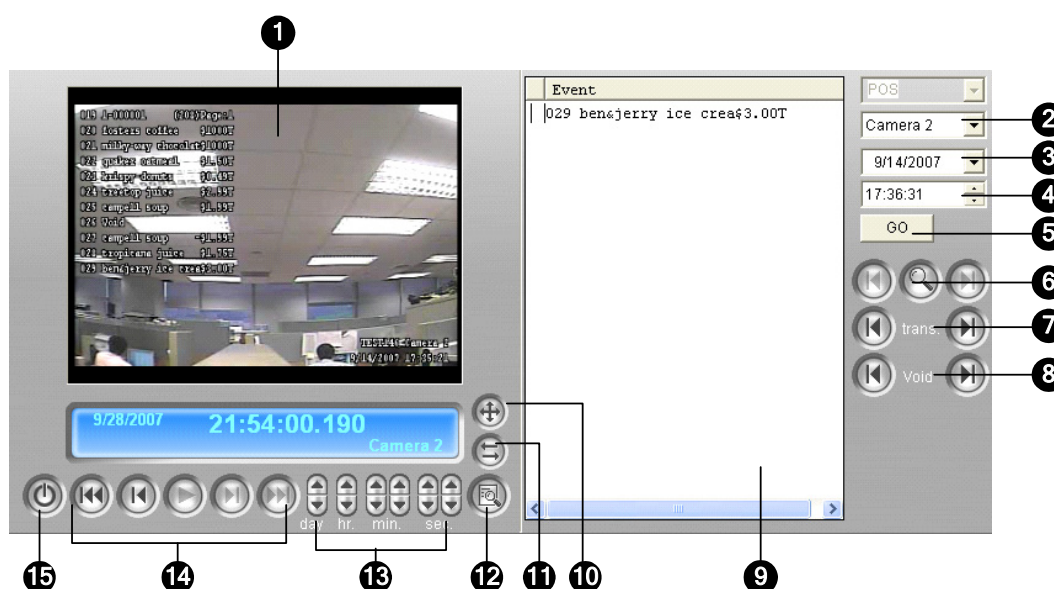

Figure 4-33 Quick Search
Click the **Event Query** button (No. 6, Figure 4-33) on the Quick Search window, and the following dialog box will appear. Use this function to find POS events by a specific item, transaction, or date.
1. Click the **Expand/Shrink Dialog** button (No.11, Figure 4-33), and select **Advanced Search**. The Advanced Search panel appears.